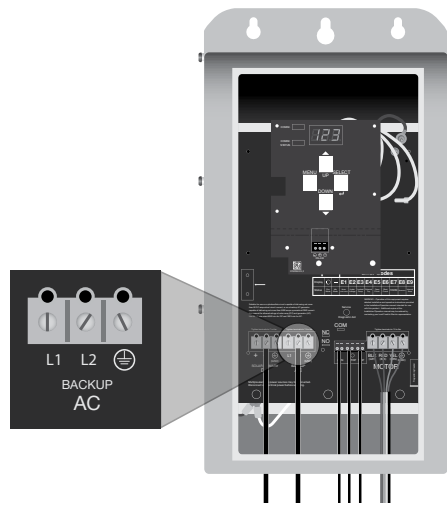

Figure 6: AC Wiring Connection
3. Connect the cables from the generator to the Terminal Block labeled “Back-up AC” and marked L1, L2, and GND. (Figure 6) (Torque specification: 15 in-lbs/ 1.7 N-m).